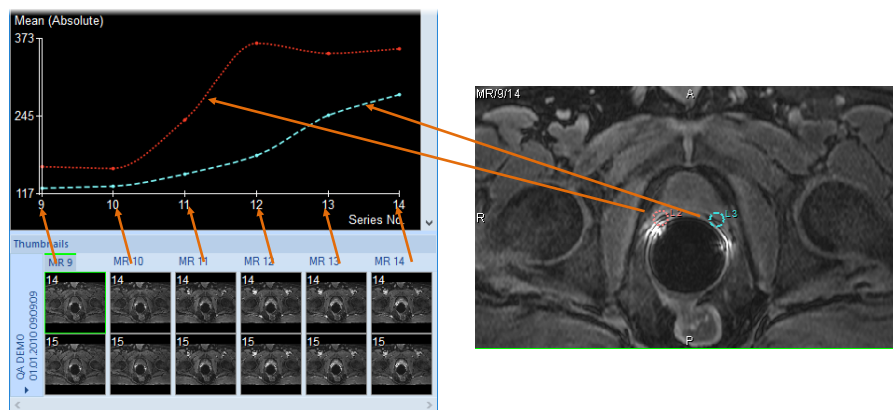

Figure 369 – Analysis calculated on the MR9 – MR14 series, ROIs defined on the primary image
- **Single-dimensional image series** - the images of the same spatial positions across all the available series within the study are searched for (see Figure 369). This, for example, allows to evaluate the time course of the saturation of the contrast agent on a study composed of multiple image series, each of them scanned at a different time (though with the images on the same positions, see Figure 369). The navigation among the images in the analysis is performed using the series number when the quantitative analysis is created across series; when the quantitative analysis is created within a single image series, the slice number is used for navigation.